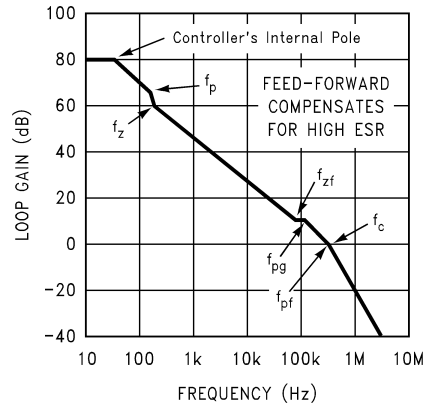

**Figure 29. High ESR Unstable without Feed-Forward**
**HIGH ESR:** To illustrate the effect of an output capacitor with high ESR, the previous example will be repeated except that the ESR will be **increased** by a factor of 20X. This will cause the frequency of the zero  $f_z$  to **decrease** by 20X, which moves it from 5 kHz down to 250 Hz (see Figure 29).
The effect of gate capacitance becomes most important at high values of ESR for the output capacitor (see Figure 29). Higher values of ESR increase  $f_c$ , which brings  $f_{pg}$  more into the positive gain portion of the curve. As  $f_{pg}$  moves to a lower frequency (corresponding to higher values of gate capacitance), this effect becomes even worse.